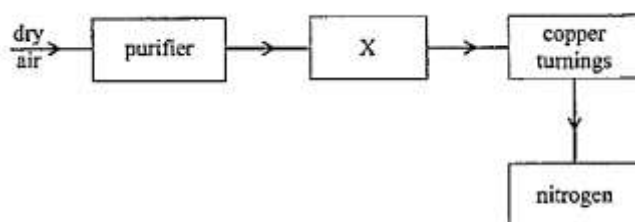

Figure 3
The flow chart in **Figure 3** shows the process of obtaining a sample of nitrogen gas. Study it and answer the questions that follow.
**Figure 3** is a flow chart that shows the process that occurs in the manufacture of nitric(V) acid.